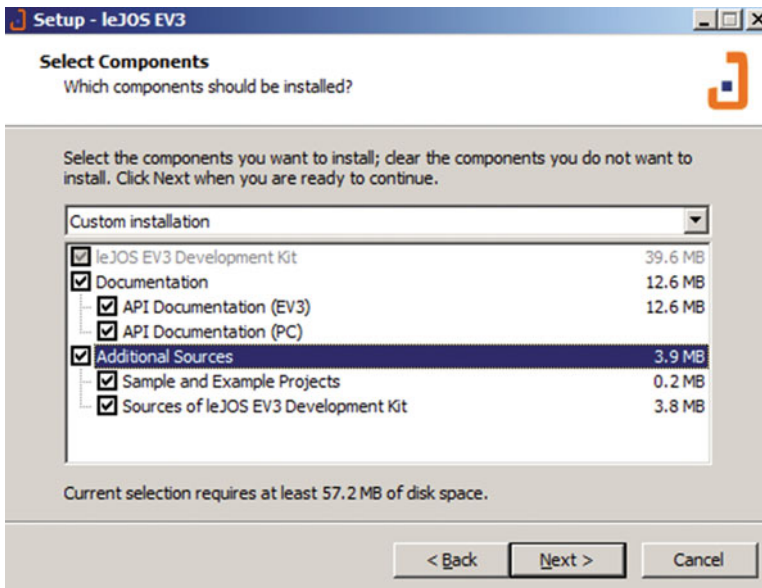

Figure 1-12. Choosing ALL components of leJOS
5. Make sure that you have installed the JDK and set the path and `JAVA_HOME` to the installation directory of your JDK. You can click *browse* to select the path to which you want to install. In this example, I chose the destination folder `C:\Program Files (x86)\leJOS EV3`. After you set up the installation folder, click *Next* button and you will see the screen shown in Figure 1-12.